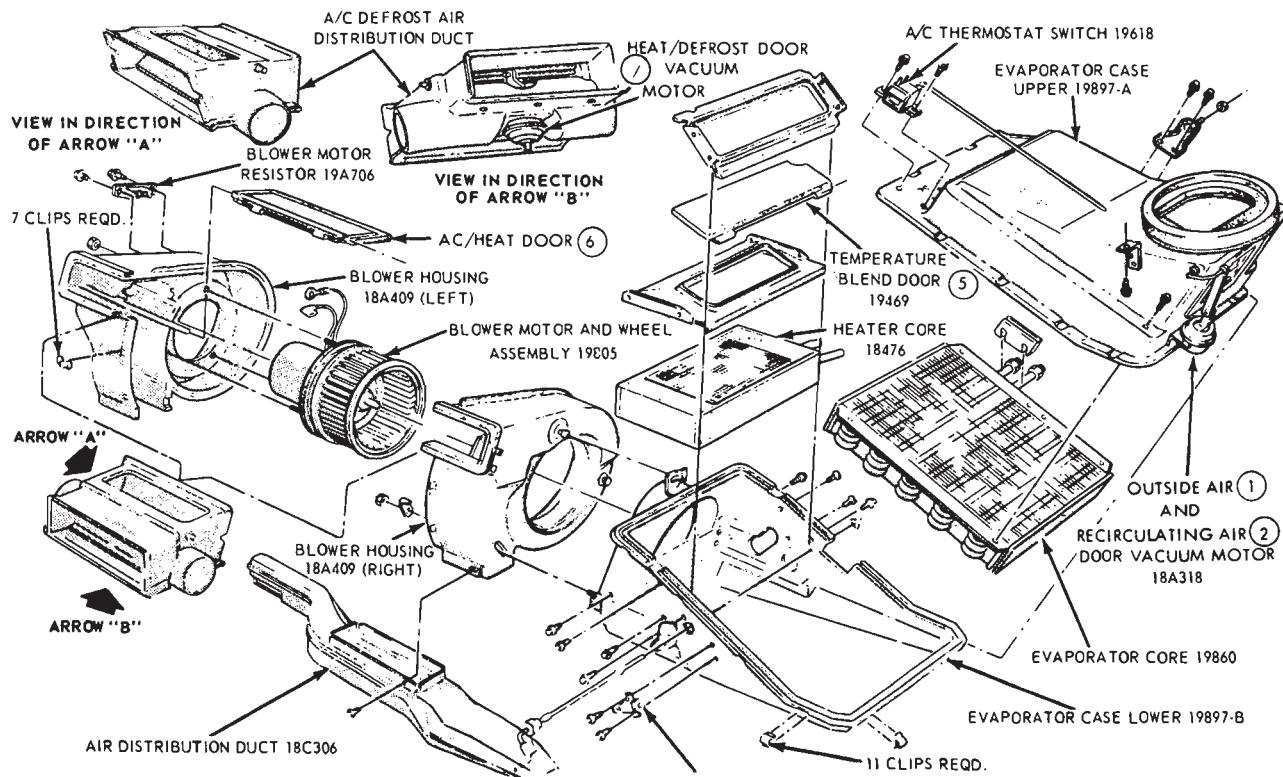

FIG. 57—A/C-Heater Assembly—Maverick
9. Disconnect the right and left air duct assembly from the heater-A/C assembly (Fig. 57).
13. Disconnect the temperature blend door (5) control at the heater-A/C assembly.
To remove the blower motor, remove the radio assembly. Then, disconnect the ignition switch from the package tray. Remove the package tray and disconnect the left and right duct assemblies. Remove the register from the blower housing. Then, remove the lower nut retaining the blower housing to the evaporator assembly. Rotate the blower housing until it disengages from the evaporator housing, and disconnect the vacuum hoses at the motor on the blower housing. Disconnect the resistor assembly (Fig. 57) and the blower ground wire and remove the blower.
6. Disconnect the 2 connectors at the switch and remove the two screws retaining the switch to the top of the evaporator (Fig. 57).